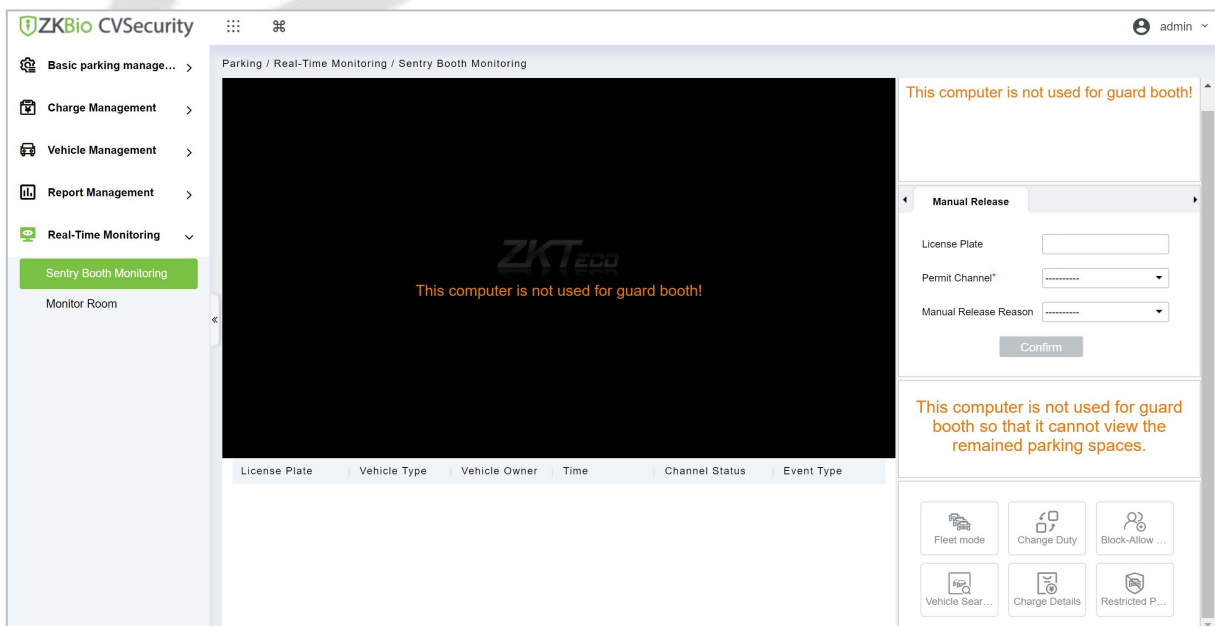

Figure 9-51 Guard Booth Monitoring Interface
Step 2: In the booth monitoring interface, you can view related monitoring videos and events, as shown in Figure 9-51.